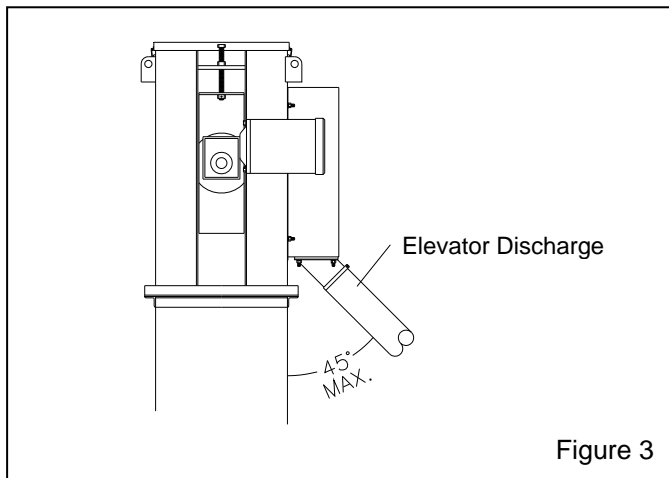

Figure 3
**NOTE:** These instructions are for the assembly of the recovery hopper and elevator only. Use these instructions in conjunction with facility drawings and other manuals provided with the recovery system. Pay particular attention to the foundation pit, and placement of the elevator with that of the blast machine and abrasive cleaner. For proper abrasive flow from the elevator discharge to the abrasive cleaner inlet, make sure the placement allows a 45° maximum (from vertical) flow-angle between the elevator discharge and abrasive cleaner inlet, as shown in Figure 3.